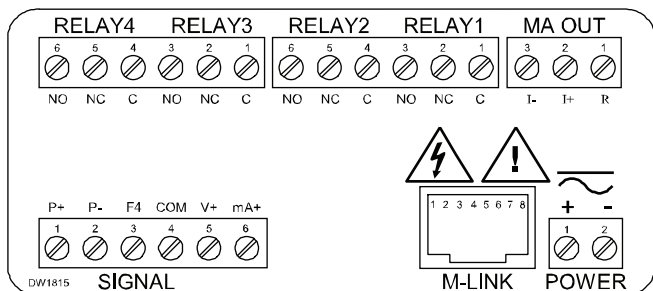

Figure 7. Connector Labeling for Fully Loaded DP6000
Power connections are made to a two-terminal connector labeled POWER on Figure 7 on page 21. The meter will operate regardless of DC polarity connection. The + and - symbols are only a suggested wiring convention.
Signal connections are made to a six-terminal connector labeled SIGNAL on Figure 7. The COM (common) terminal is the return for the 4-20 mA and the ± 10 V input signals.
Serial communications connection is made to an RJ45 connector labeled M-LINK on Figure 7. For interfacing to the DP6000, use the DPA1232 for RS-232, the DPA1485 for RS-485, or the DPA8008 for USB. The same port is used for interfacing with all expansion modules (e.g. external relays, digital I/O).
Relay connections are made to two six-terminal connectors labeled RELAY1 – RELAY4 on Figure 7. Each relay's C terminal is common only to the normally open (NO) and normally closed (NC) contacts of the corresponding relay. The relays' C terminals should not be confused with the COM (common) terminal of the INPUT SIGNAL connector.